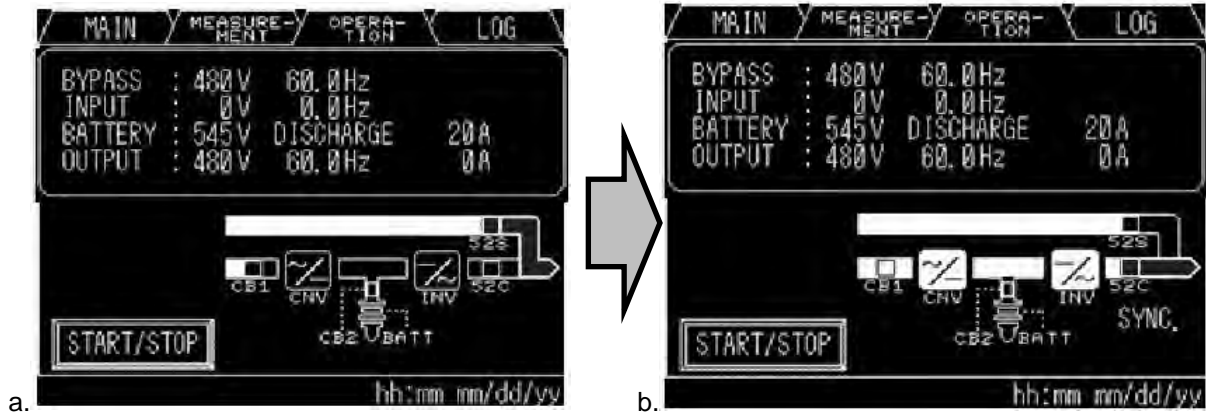

Figure 5-22 Automatic Startup of Inverter and Converter
- The LCD panel boots up automatically and opens up in the “MAIN” Tab; the Converter and Inverter will start automatically (Figure 5-22).